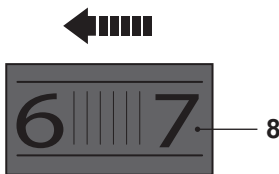

Fig. 13
- > Limit the maximum speed using the speed dial (8).
- > Turn the speed dial (8) left (as seen from the operator's position) to increase the maximum speed (Fig. 13). A higher setting is suitable for sanding with fine grained sanding belts to achieve a fine finish.